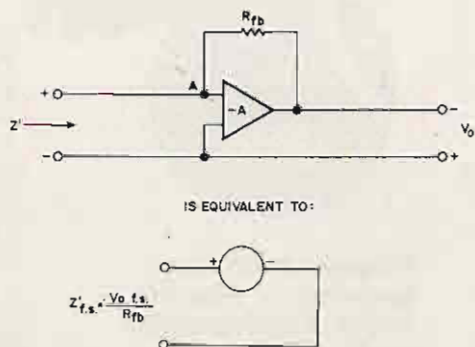

Fig. 1. Feedback amplifier equivalent circuit.
One way to explain this technique is to think of the amplifier in Fig. 1 as a balancing device. If the amplifier has very high gain, a small voltage at the summing point (A) will appear at the amplifier output as a large voltage. Since the amplifier gain is negative (that is, a positive input produces a negative output and vice versa) the current through  $R_{fb}$  will oppose the input current. The opposing current will tend to drive the summing point back to zero voltage. In other words, the amplifier output opposes the input current until a balance or zero voltage is approached at point A. This balancing action will produce a current through  $R_{fb}$  which is very nearly equal to the input current. Even though summing point A is not directly connected to ground, the action of the feedback will maintain the voltage near zero. A more technical term for this point is a "virtual ground;" it appears like a ground point but actually isn't.